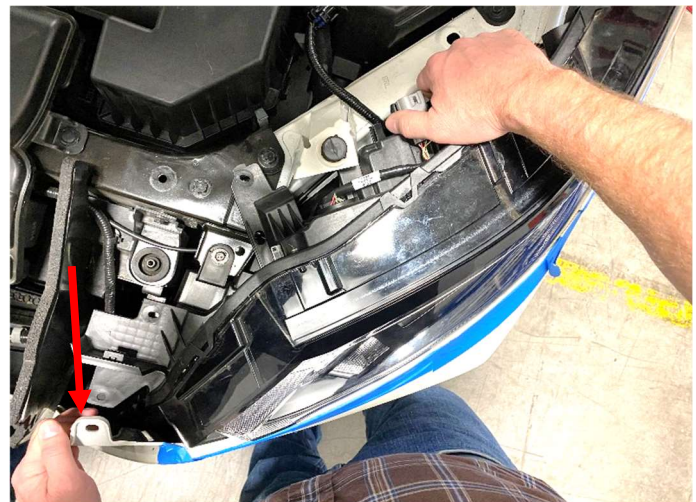

Figure 15
15. Carefully pull the fascia back and remove the cracked combination lamp assembly. (Figure 15)